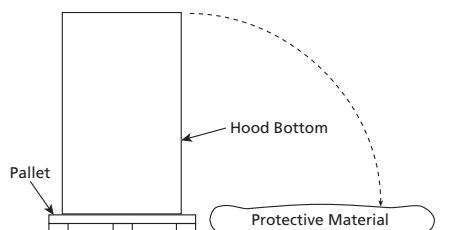

Figure 5
2. With the hood still inside its packing crate, position the unit beneath its installation location. Carefully remove the packing crate. Place some protective material on the floor next to the crate to avoid damaging the hood. Tip the hood on its side carefully onto the protective material, see Figure 5.